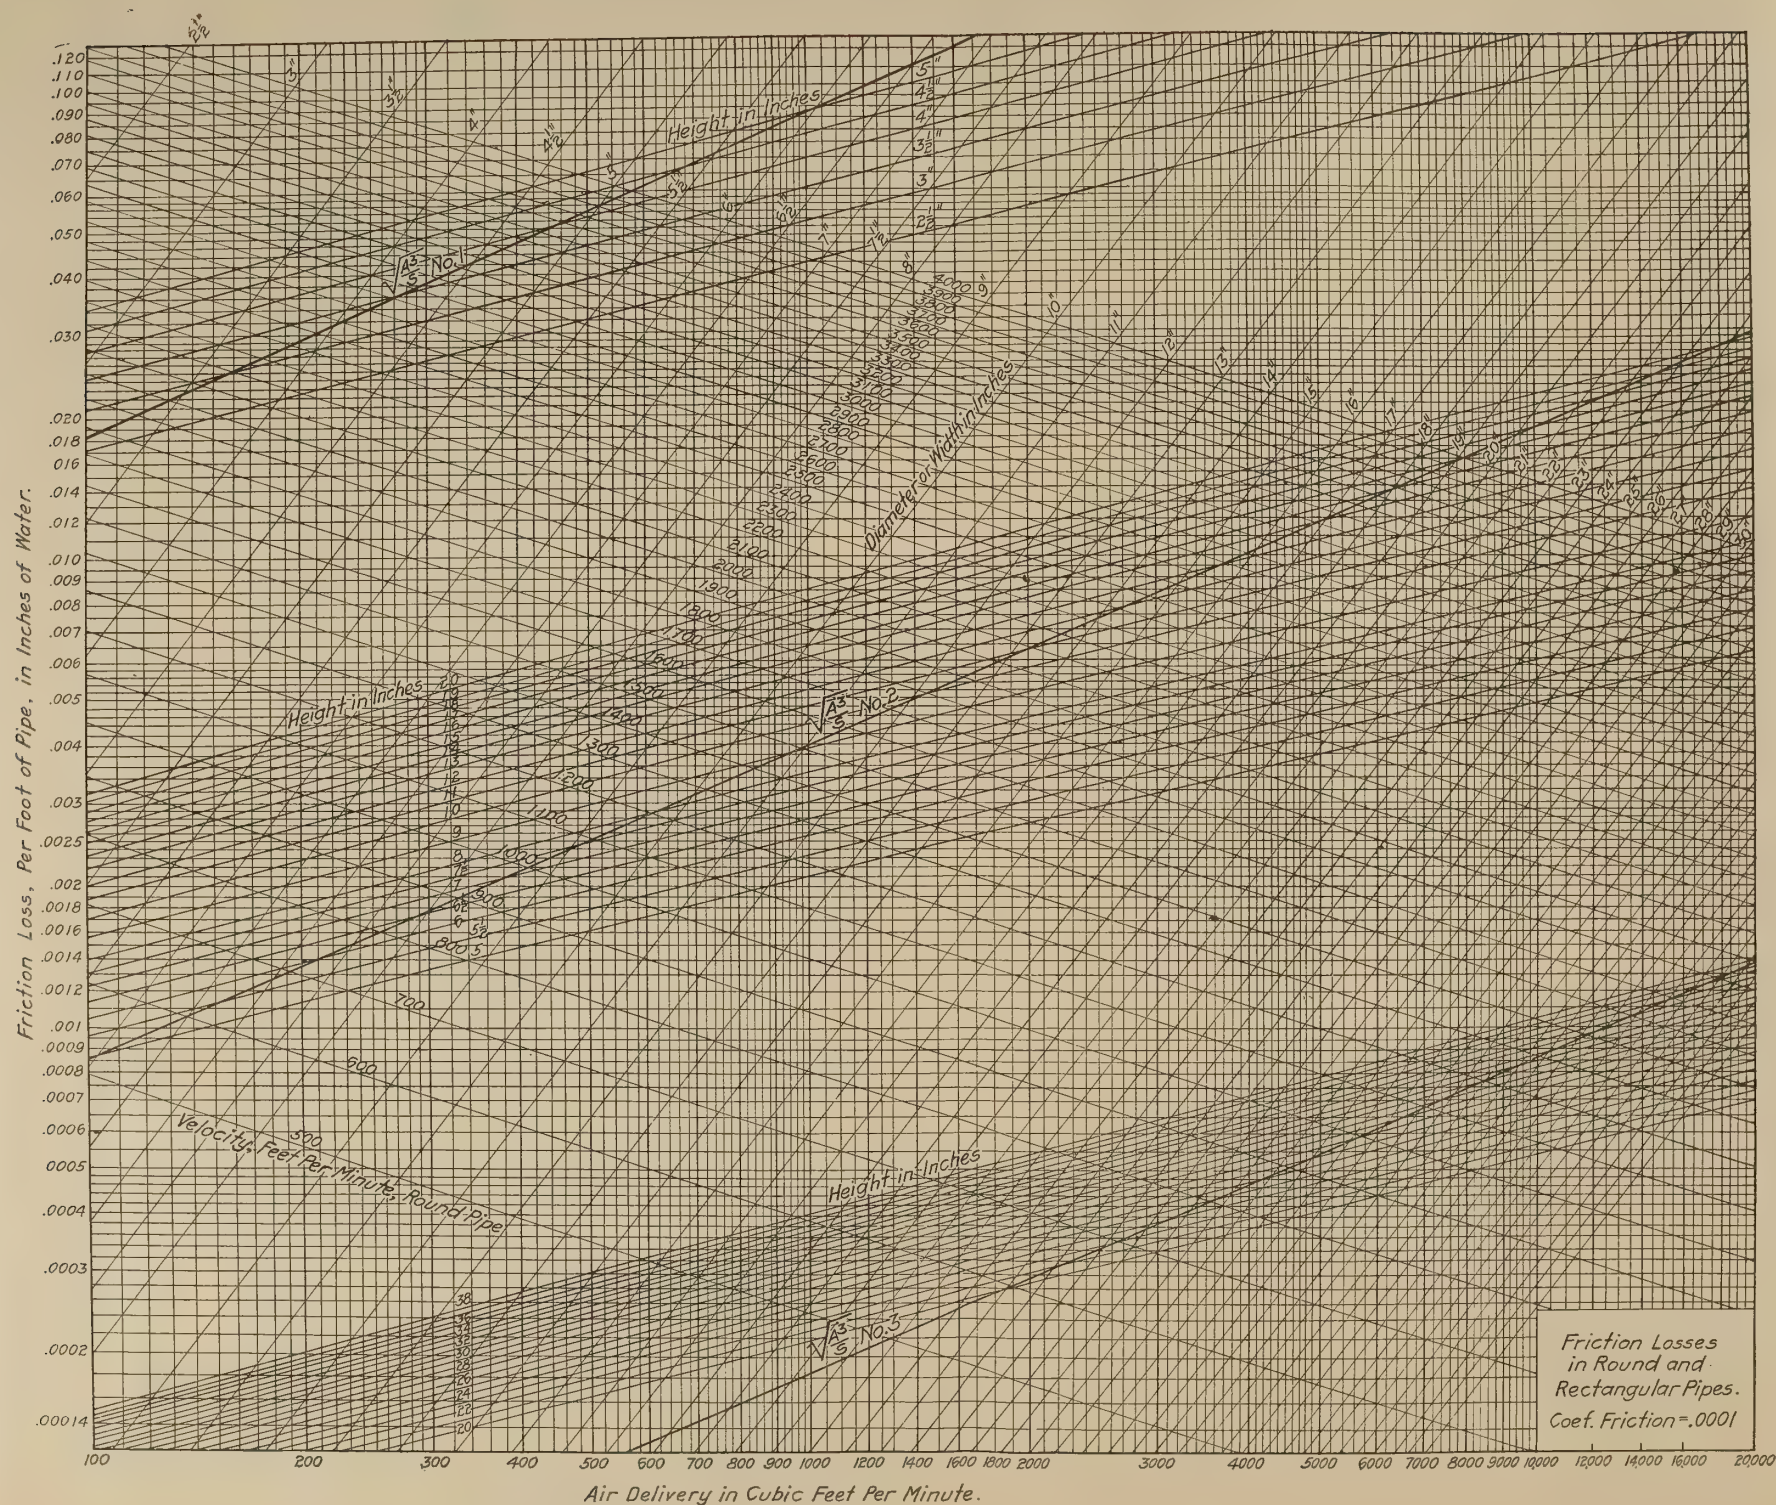

Fig. 1
Where the pipe is not round, Fig. 1 is used to determine the equivalent size of round pipe for the same loss per foot before using the above table. This is done by finding the point on diagram Fig. 1, where lines corresponding with the width and height of rectangular pipe intersect. From the intersection project a line horizontally till it meets one of the lines labeled  $\sqrt{\frac{A^2}{S}}$ , which will give
- (b) Loss in cone *B* may be found from the diagram, Fig. 1, as follows:
On the diagram, Fig. 1, find the intersection of diagonal lines for a width of 18 3/16 inches and a height of 16 3/16 inches. A horizontal line should be drawn through this
A 29 1/2-inch by 7 1/2-inch pipe is equivalent in loss to a 15.6-inch diameter round pipe from Fig. 1. Using Table 1: